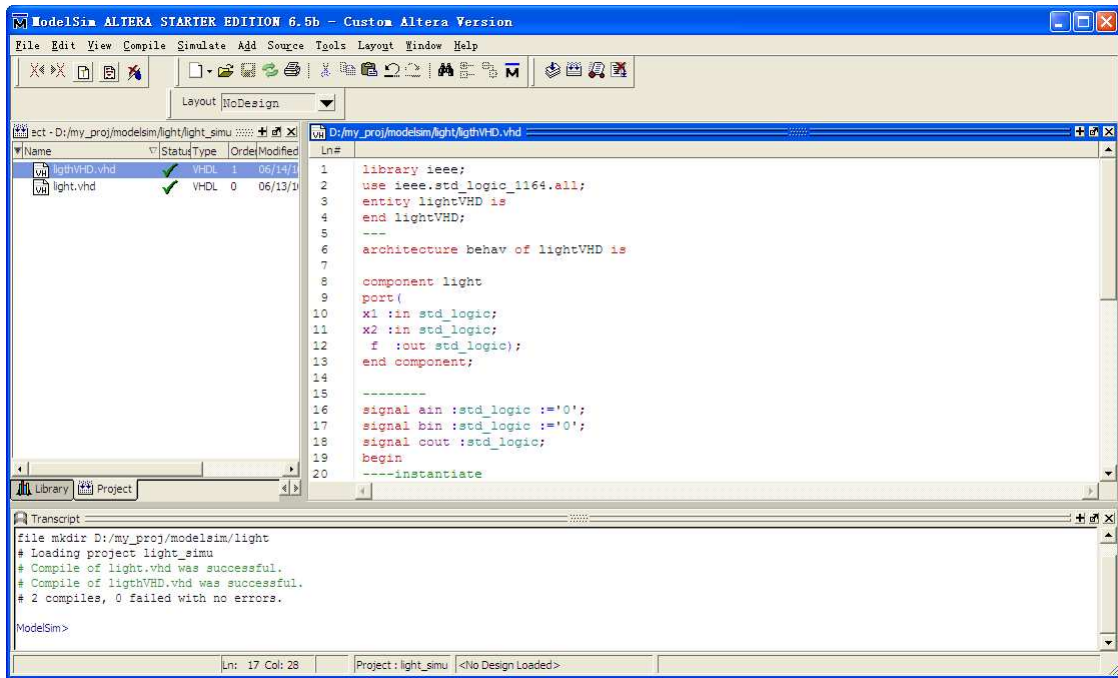

Figure 37. Compile the files
a. Right-click either lighth.vhd or lightVHD.vhd in the Project window and select **Compile > Compile All** from the pop-up menu. ModelSim not only compiles files but changes the symbol in the Status column to a green check mark as well. A green check mark means the compile succeeded, meantime, there **"Compile of lightVHD.vhd was successful"** in green will appear in the transcript window(Figure 37). If the compilation fails, the symbol will be a red **"X"**, and you will see an error message in the Transcript window.